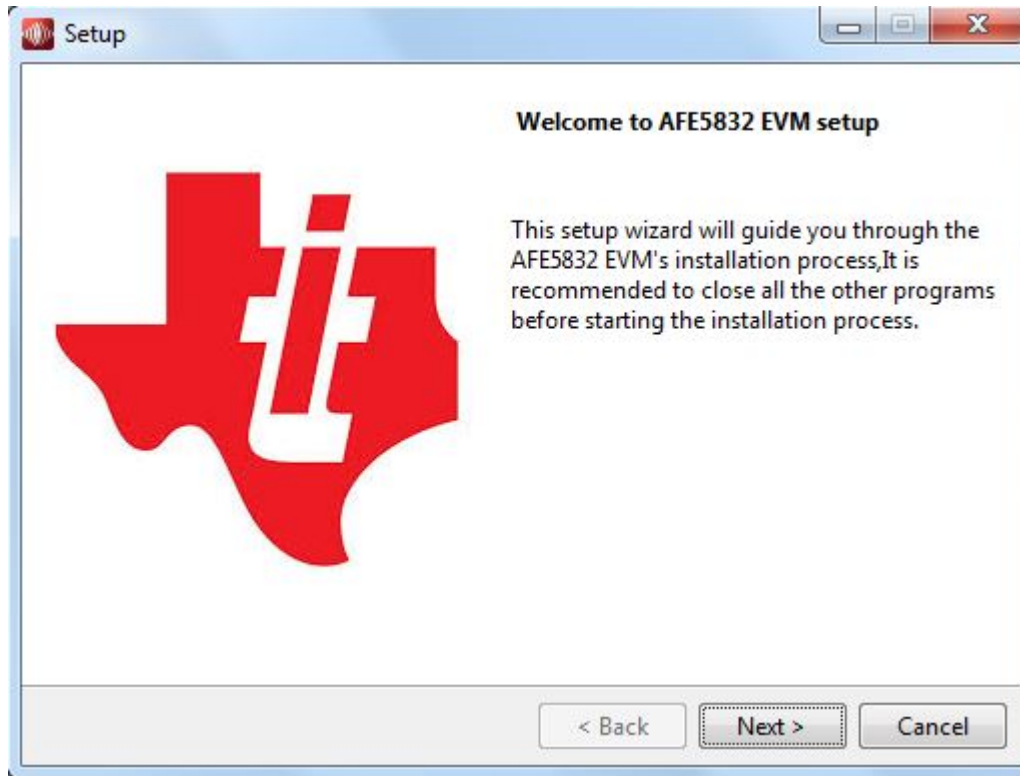

Figure 31. AFE5832 GUI Install (Begin Installation)
1. Unzip the saved file and run the installer executable as administrator by right clicking on the file and selecting *Run as Administrator*. Press the *Next* button once the graphic in Figure 31 appears.